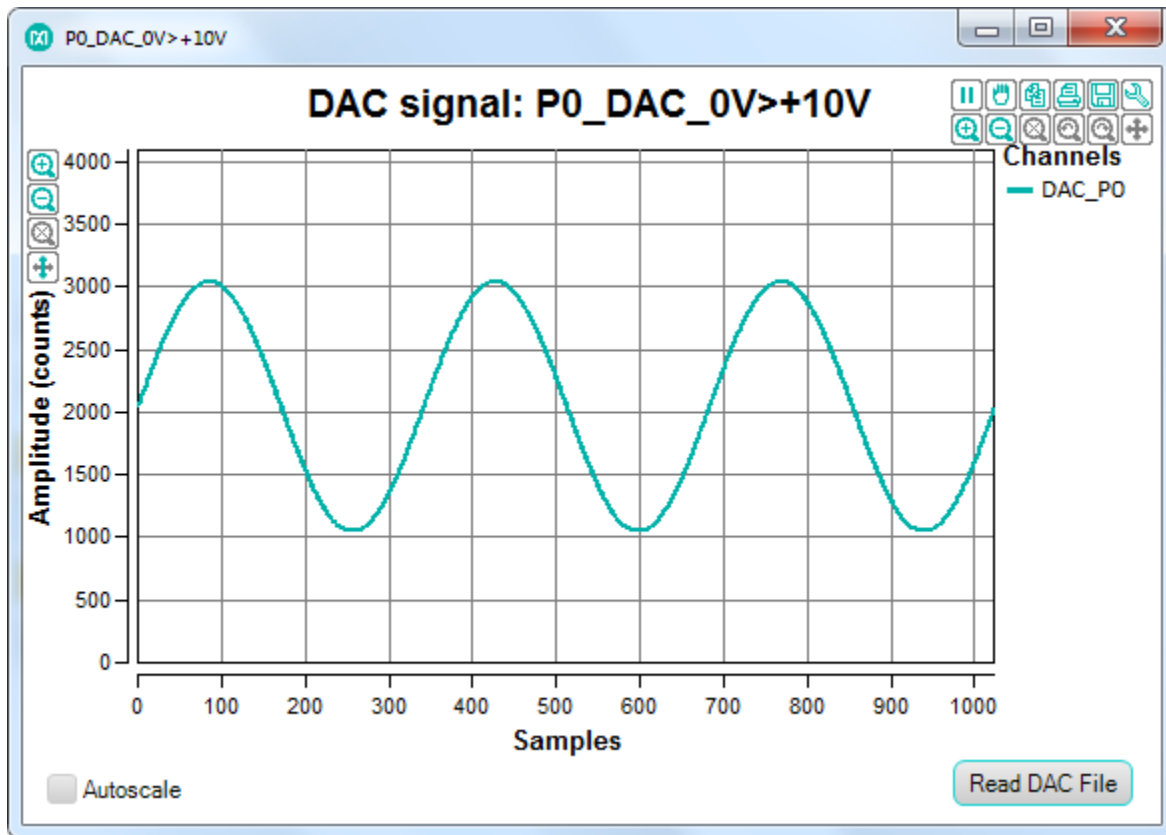

Figure 23. P0_DAC_0V>+10V plot window.
1. Under Plot Windows in the drop-down menu at the top right, select **P0_DAC_0V>+10V** and Get plot box. A small plot window appears on the screen as shown in **Figure 23**. Click **Read DAC File** and select an analog data point file called **ideal_sine_1000_3x.adc**.